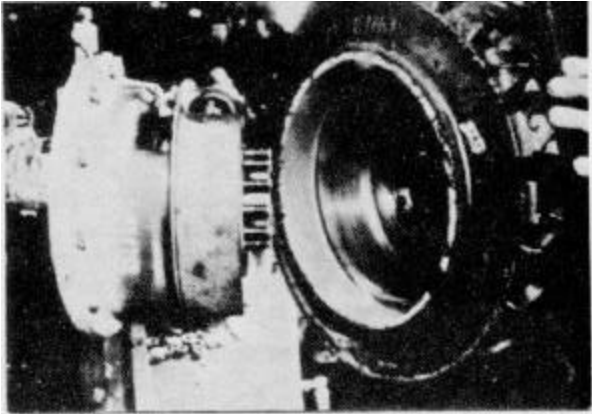
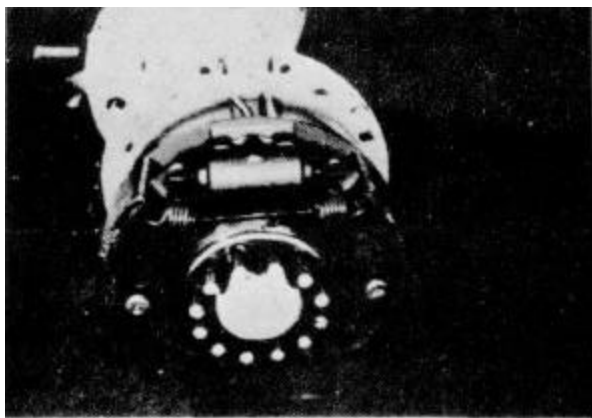

Figure 5-12
Figure 5-13
2. Remove the wheel and brake drum along with the tire. Older axle models with conical dowels may require rocking the assembly as it is pulled to free the dowels. Fig. 5-12 shows the wheel removed to expose the service brake components (Fig. 5-13).